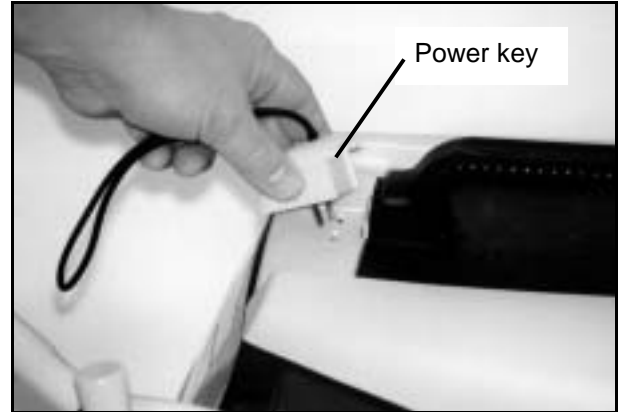

Figure 7
1. To start, insert the power key into the switch slots located behind the battery pack (*Figure 7*).